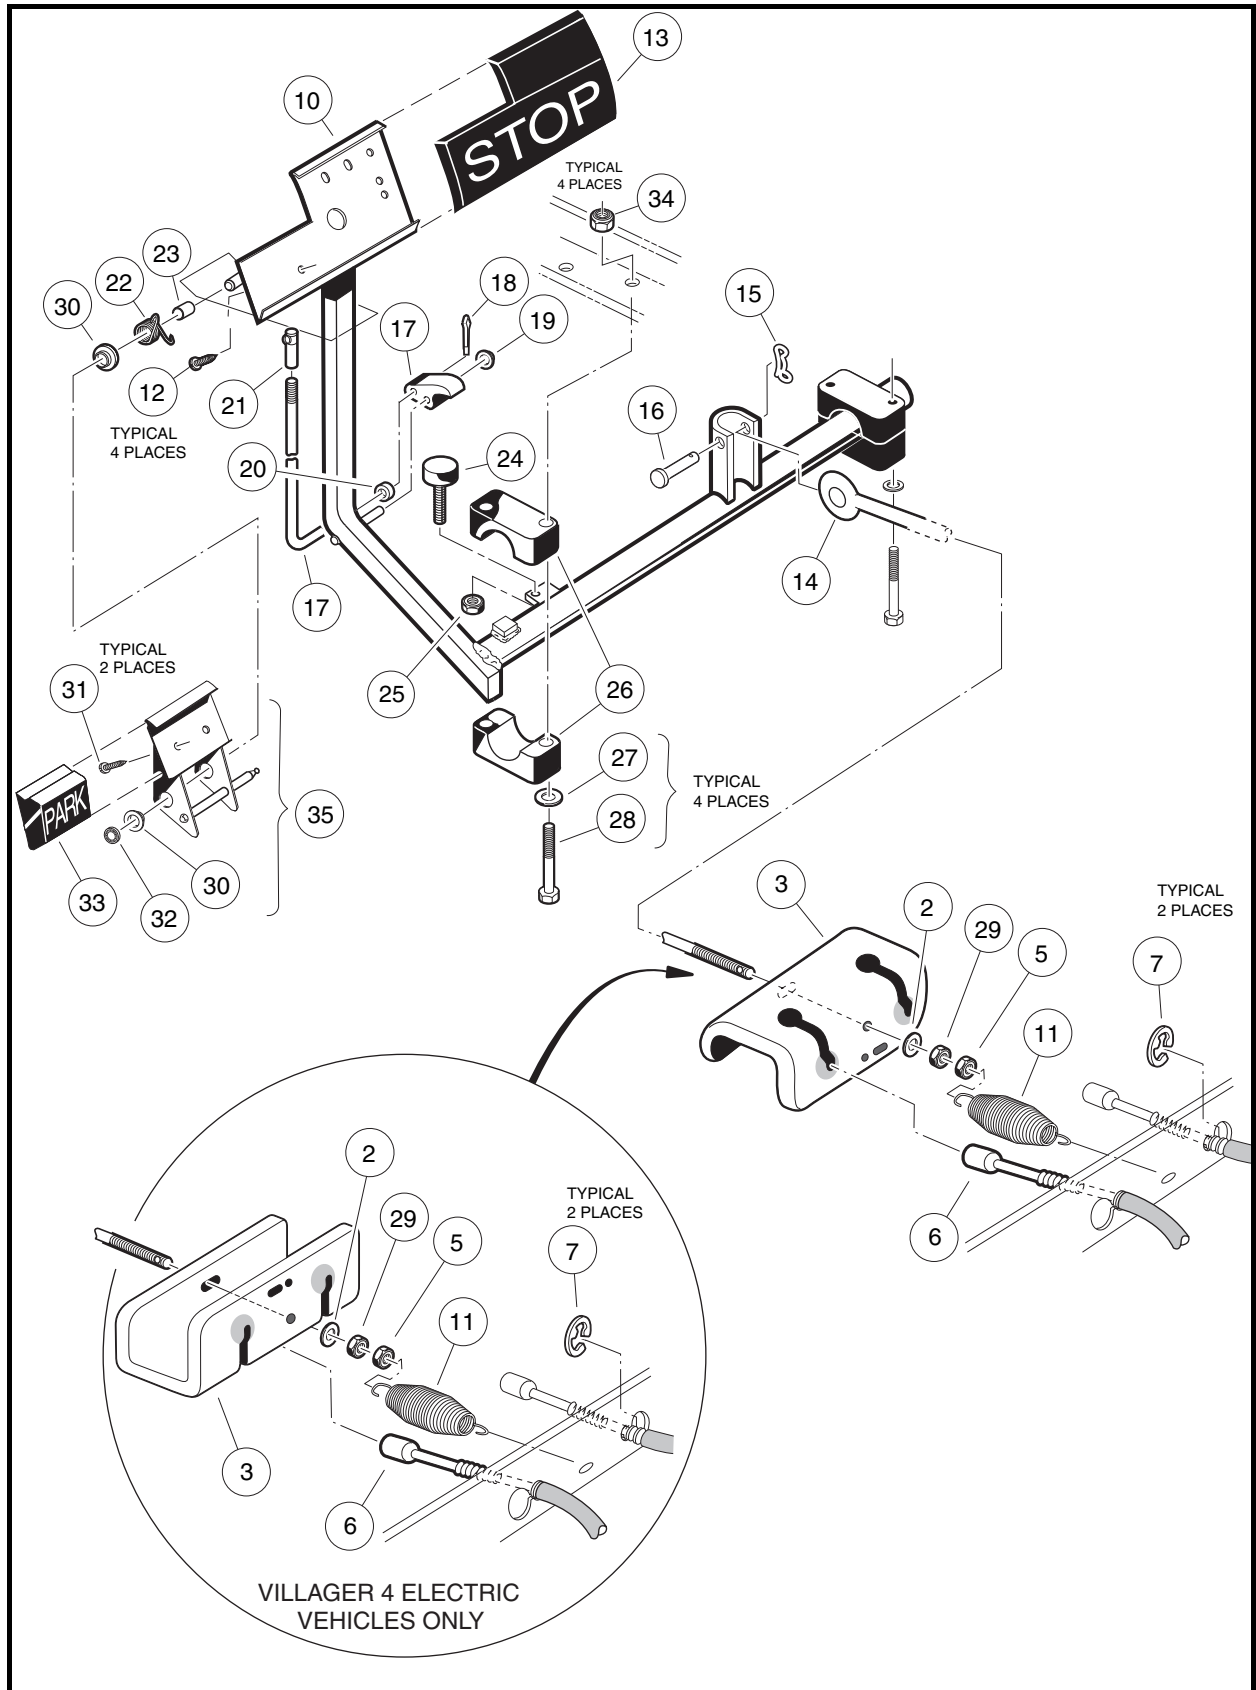
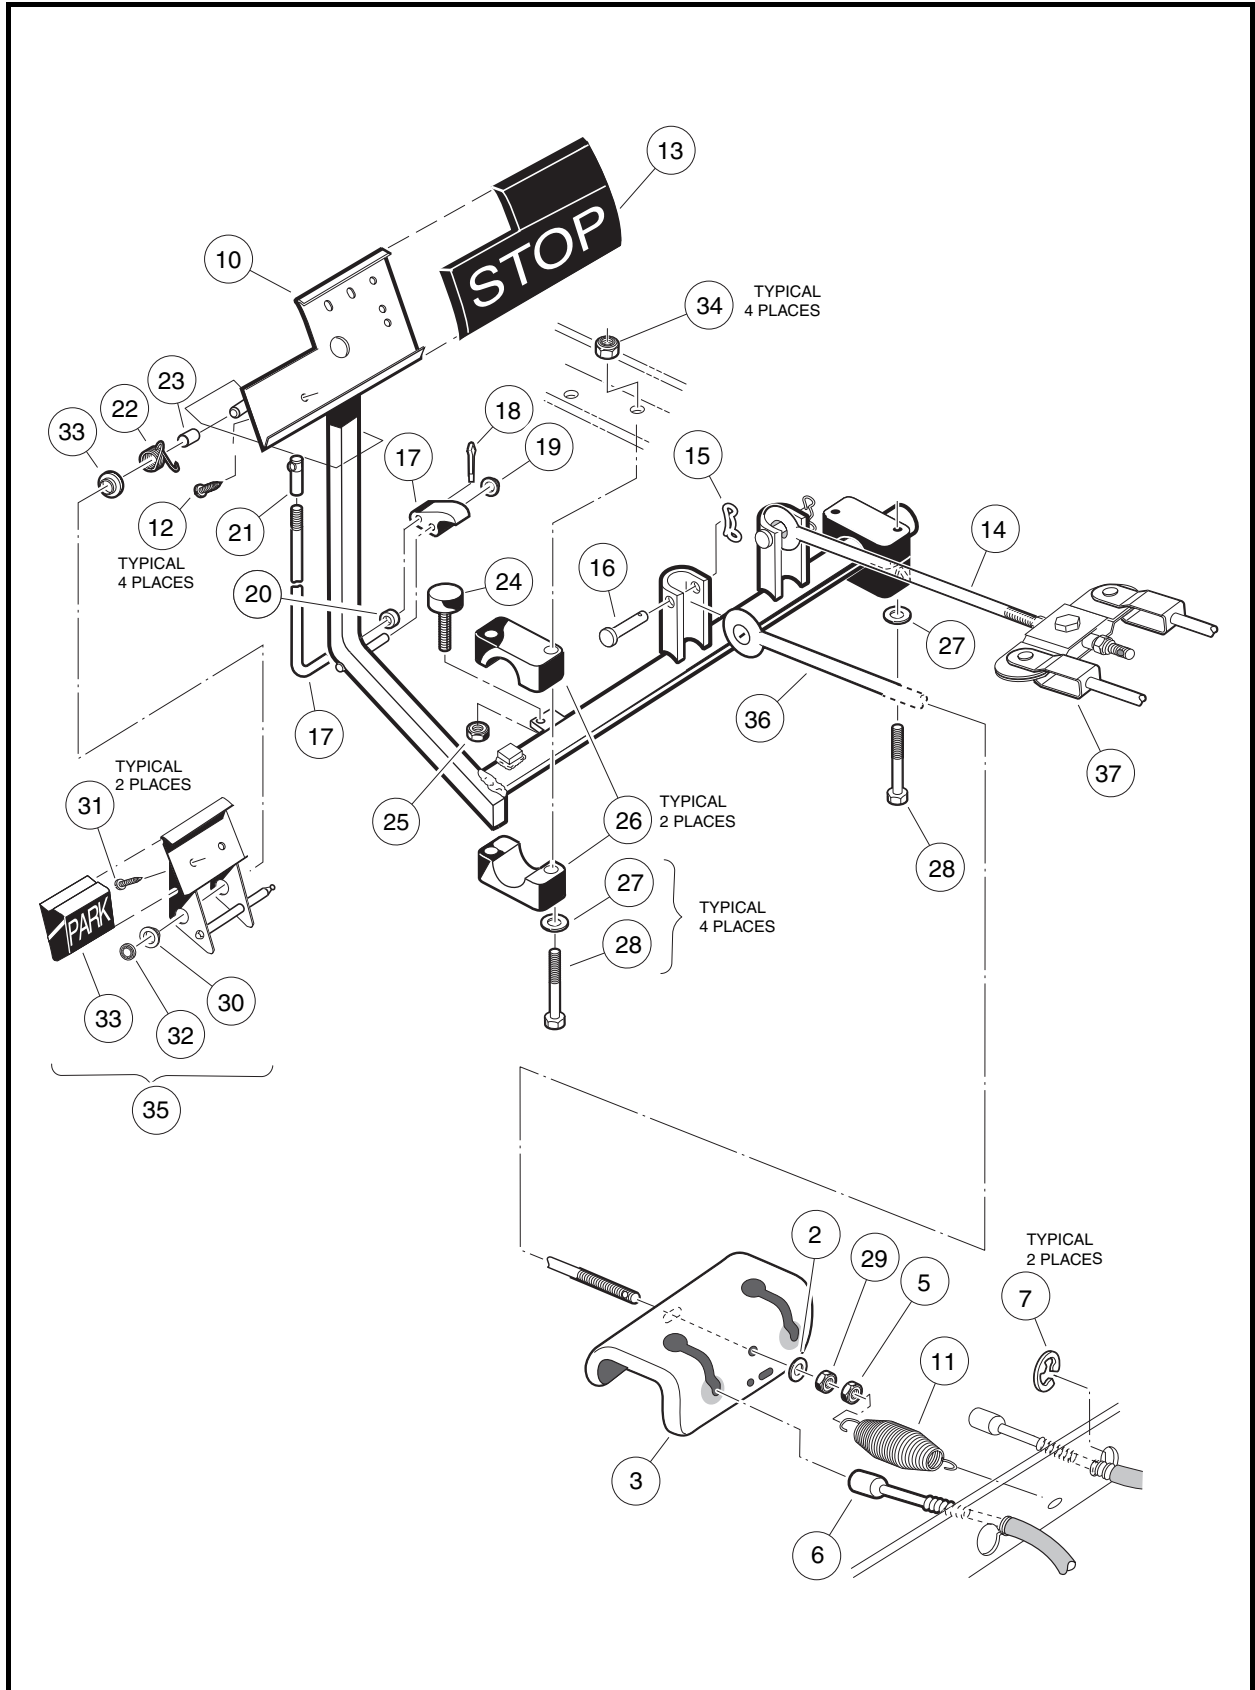
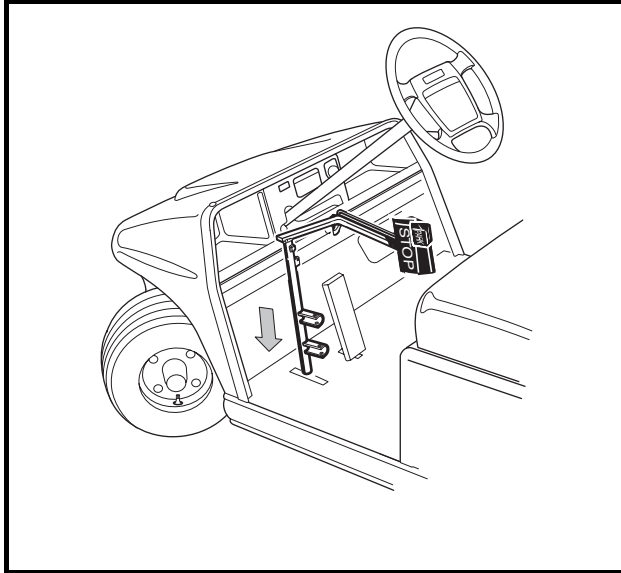
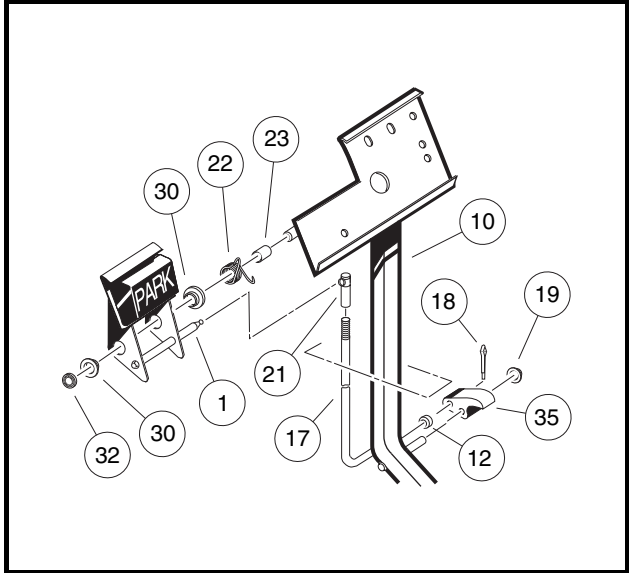

Figure 5-1 Brake and Park Brake Pedal Assembly and Mounting – Two-Wheel Brake Vehicles
Figure 5-2 Brake and Park Brake Pedal Assembly and Mounting – Four-Wheel Brake Vehicles
Figure 5-3 Brake Pedal Weldment Through Floor
Figure 5-4 Park Brake Assembly
- 3.1. Disconnect the equalizer rod(s) (14 and 36) from the pedal shaft by removing the clevis pin(s) (16) and bow-tie pin(s) (15) (**Figure 5-1, Page 5-2 or Figure 5-2, Page 5-3**).
- 3.2. Remove the nuts (34), flat washers (27), bolts (28), and mounting blocks (26). If the mounting blocks (26) show signs of excessive wear or are damaged, they must be replaced with new ones before installing pedal assembly (**Figure 5-1, Page 5-2 or Figure 5-2, Page 5-3**).
- 3.3. Remove the nut (25) and brake stop bumper (24) (**Figure 5-1, Page 5-2 or Figure 5-2, Page 5-3**).
- 3.4. Lift the pedal assembly (10) through the floorboard (**Figure 5-3, Page 5-4**).
1. From the top side of the floorboard, insert the brake pedal assembly (10) (**Figure 5-1, Page 5-2 or Figure 5-2, Page 5-3**) through the opening in the floor as shown (**Figure 5-3, Page 5-4**) and install the brake pedal stop bumper (24) (**Figure 5-1, Page 5-2 or Figure 5-2, Page 5-3**) on the brake pedal assembly, but do not tighten the jam nut (25) at this time.
2. Secure the equalizer rod(s) (14 and 36) to the brake pedal assembly (10) with clevis pin(s) (16) and bowtie pin(s) (15) as shown (**Figure 5-1, Page 5-2 or Figure 5-2, Page 5-3**). See following **NOTE**.
3. Position and attach brake pedal assembly, mounting blocks (26), and washers (27) to vehicle frame as shown. Tighten the bolts and nuts to 113 in-lb (12.8 N-m) (**Figure 5-1, Page 5-2 or Figure 5-2, Page 5-3**).
- 3.1. To remove the park brake rod and pawl assembly (17 through 20), remove the push nut (19) and disconnect the ball joint sleeve (21) from the park brake pedal (35) (**Figure 5-1, Page 5-2 and Figure 5-2, Page 5-3**). See following **NOTE.**
**NOTE:** New push nuts (19) and (32) must be used when reassembling the park brake
*(Figure 5-4,*
- 3.2. To remove the park brake pedal (1), remove the push retainer nut (32), disconnect the torsion spring (22) (**Figure 5-4, Page 5-4**) and slide the pedal off of the shaft. See preceding **NOTE.**
1. From the bottom side of the floorboard, insert the park brake rod (17) through the brake pedal assembly opening as shown (**Figure 5-4, Page 5-4**). Then install the park brake pawl (35) onto the shaft on the brake pedal assembly (10) and also insert the park brake rod (17) into the park brake pawl.
2. Install the push nut (19) on to the park brake pawl shaft.
3. Install the spacer (23) and torsion spring (22) on the park brake pedal shaft on the brake pedal assembly.
4. Install the two bushings (30) in the park brake pedal and position the park brake pedal on the shaft on the brake pedal assembly weldment (10) (**Figure 5-4, Page 5-4**). Then attach the ends of the torsion spring to the park brake pedal and to the brake pedal weldment as shown (**Figure 5-5, Page 5-6**).
5. Install the push nut (32) on the park brake pedal shaft (**Figure 5-4, Page 5-4**).
6. Connect park brake rod (17) with ball joint (21) to the ball stud on the park brake pedal assembly (**Figure 5-4, Page 5-4**).